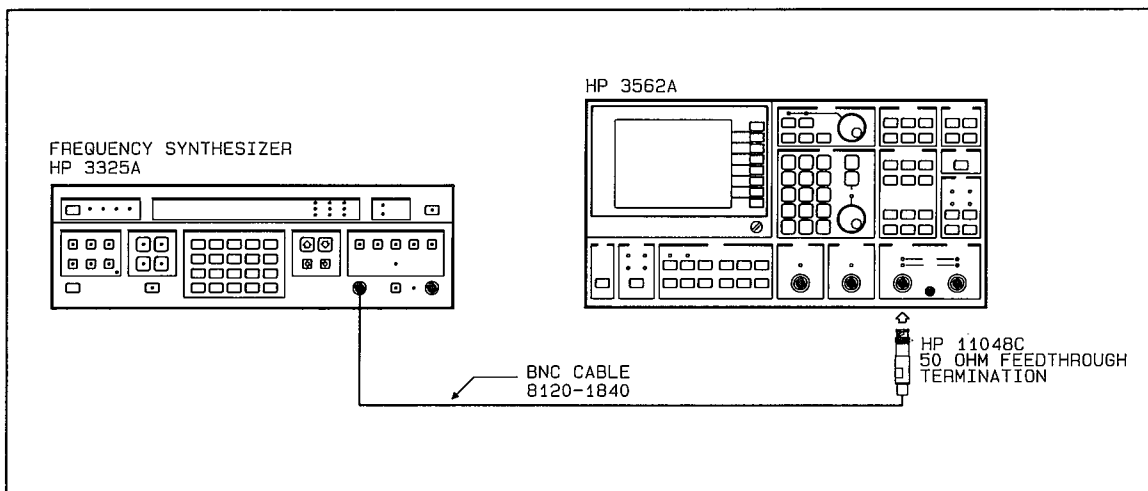

Figure 2-16 Frequency Accuracy Test Setup
A. Connect the test equipment as shown in figure 2-16. Refer to "Initial Equipment Setup," paragraph 2-20, for unspecified parameters.